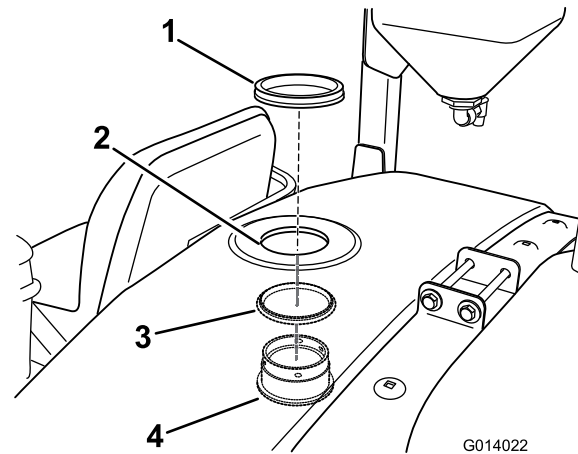

Figure 21
3. Install the bulkhead as shown in Figure 21.